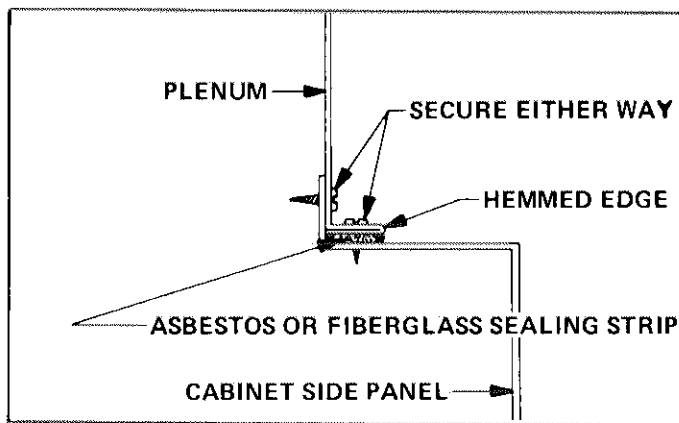

FIGURE 2
- 1 - Bottom edge of plenum should be flanged with a hemmed edge. See Figure 2.